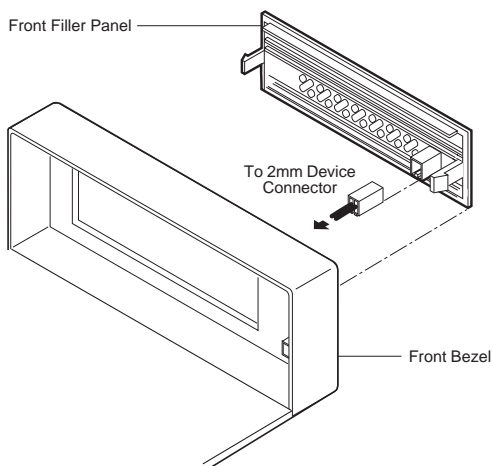

Figure 8: Removing the Filler Panel
6. If installing removable media devices, remove the appropriate filler panels from the DS50. The filler panel(s) may be removed by gently prying with the tip of a flat blade screwdriver as shown in Figure 8. If installing fixed media device(s), leave the filler panel(s) in place.